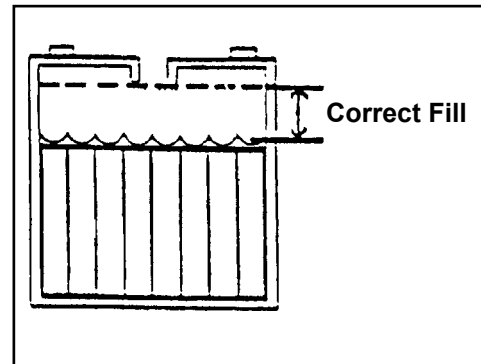

Figure 4
The batteries are fitted in the battery compartment under the seat and recovery tank (figure 4). The machine uses six - 6 volt batteries. They must be handled by using appropriate lifting equipment suitable for the weight and for the coupler system. For maintenance and daily recharge of the batteries, it is necessary to follow all instructions given by the manufacturer.
For Battery Installation follow these steps (See figure 4):
1. Keep the electrolyte at the correct level. The correct level is between 1/4" (1/2 cm) below the bottom of the tube in each cell and above the tops of the plates. Check the level of the electrolyte each time you charge the batteries (see figure 4).